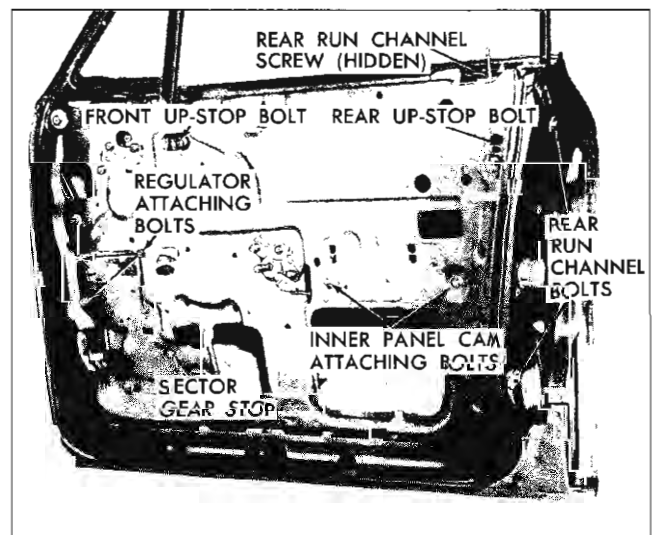

Fig. 3-33 Front Door Hardware Attachment
2. Through door inner panel access holes, remove bolt securing window front up-stop and window assembly rear up-stop and remove stops from door. These stops are attached to the front and rear extensions (legs) of the window lower sash channel and are adjustable up or down (Fig. 3-33).
4. Remove window inner panel cam (Fig. 3-33).
NOTE: It may be necessary to remove the single screw securing the top section of window rear run channel to door inner panel. This can be done to gain more freedom of movement at rear section of window (Fig. 3-33).
1. The door window inner panel cam is adjustable at the forward section and can be utilized to correct a rotated (cocked) front door window (Fig. 3-33).
4. To adjust upper rear of window in or out for proper contact with side roof rail weatherstrip, or to adjust rear of window in or out at belt line, loosen two rear glass run channel attaching bolts at lock pillar facing of door and the single screw at top in door inner panel. Position channel in or out as required and tighten bolts and screw (Fig. 3-33).
5. To adjust limit of up travel of window for proper contact with side roof rail weatherstrip, raise door window and through inner panel access holes, loosen window front and rear stop attaching bolts. Adjust stops up or down as required, then tighten bolts (Fig. 3-33).
6. The up travel of the window is additionally controlled by the window regulator sector gear stop (Fig. 3-33). This stop is adjustable up or down.
4. Remove regulator motor attaching bolts and remove motor from regulator (Fig. 3-33).